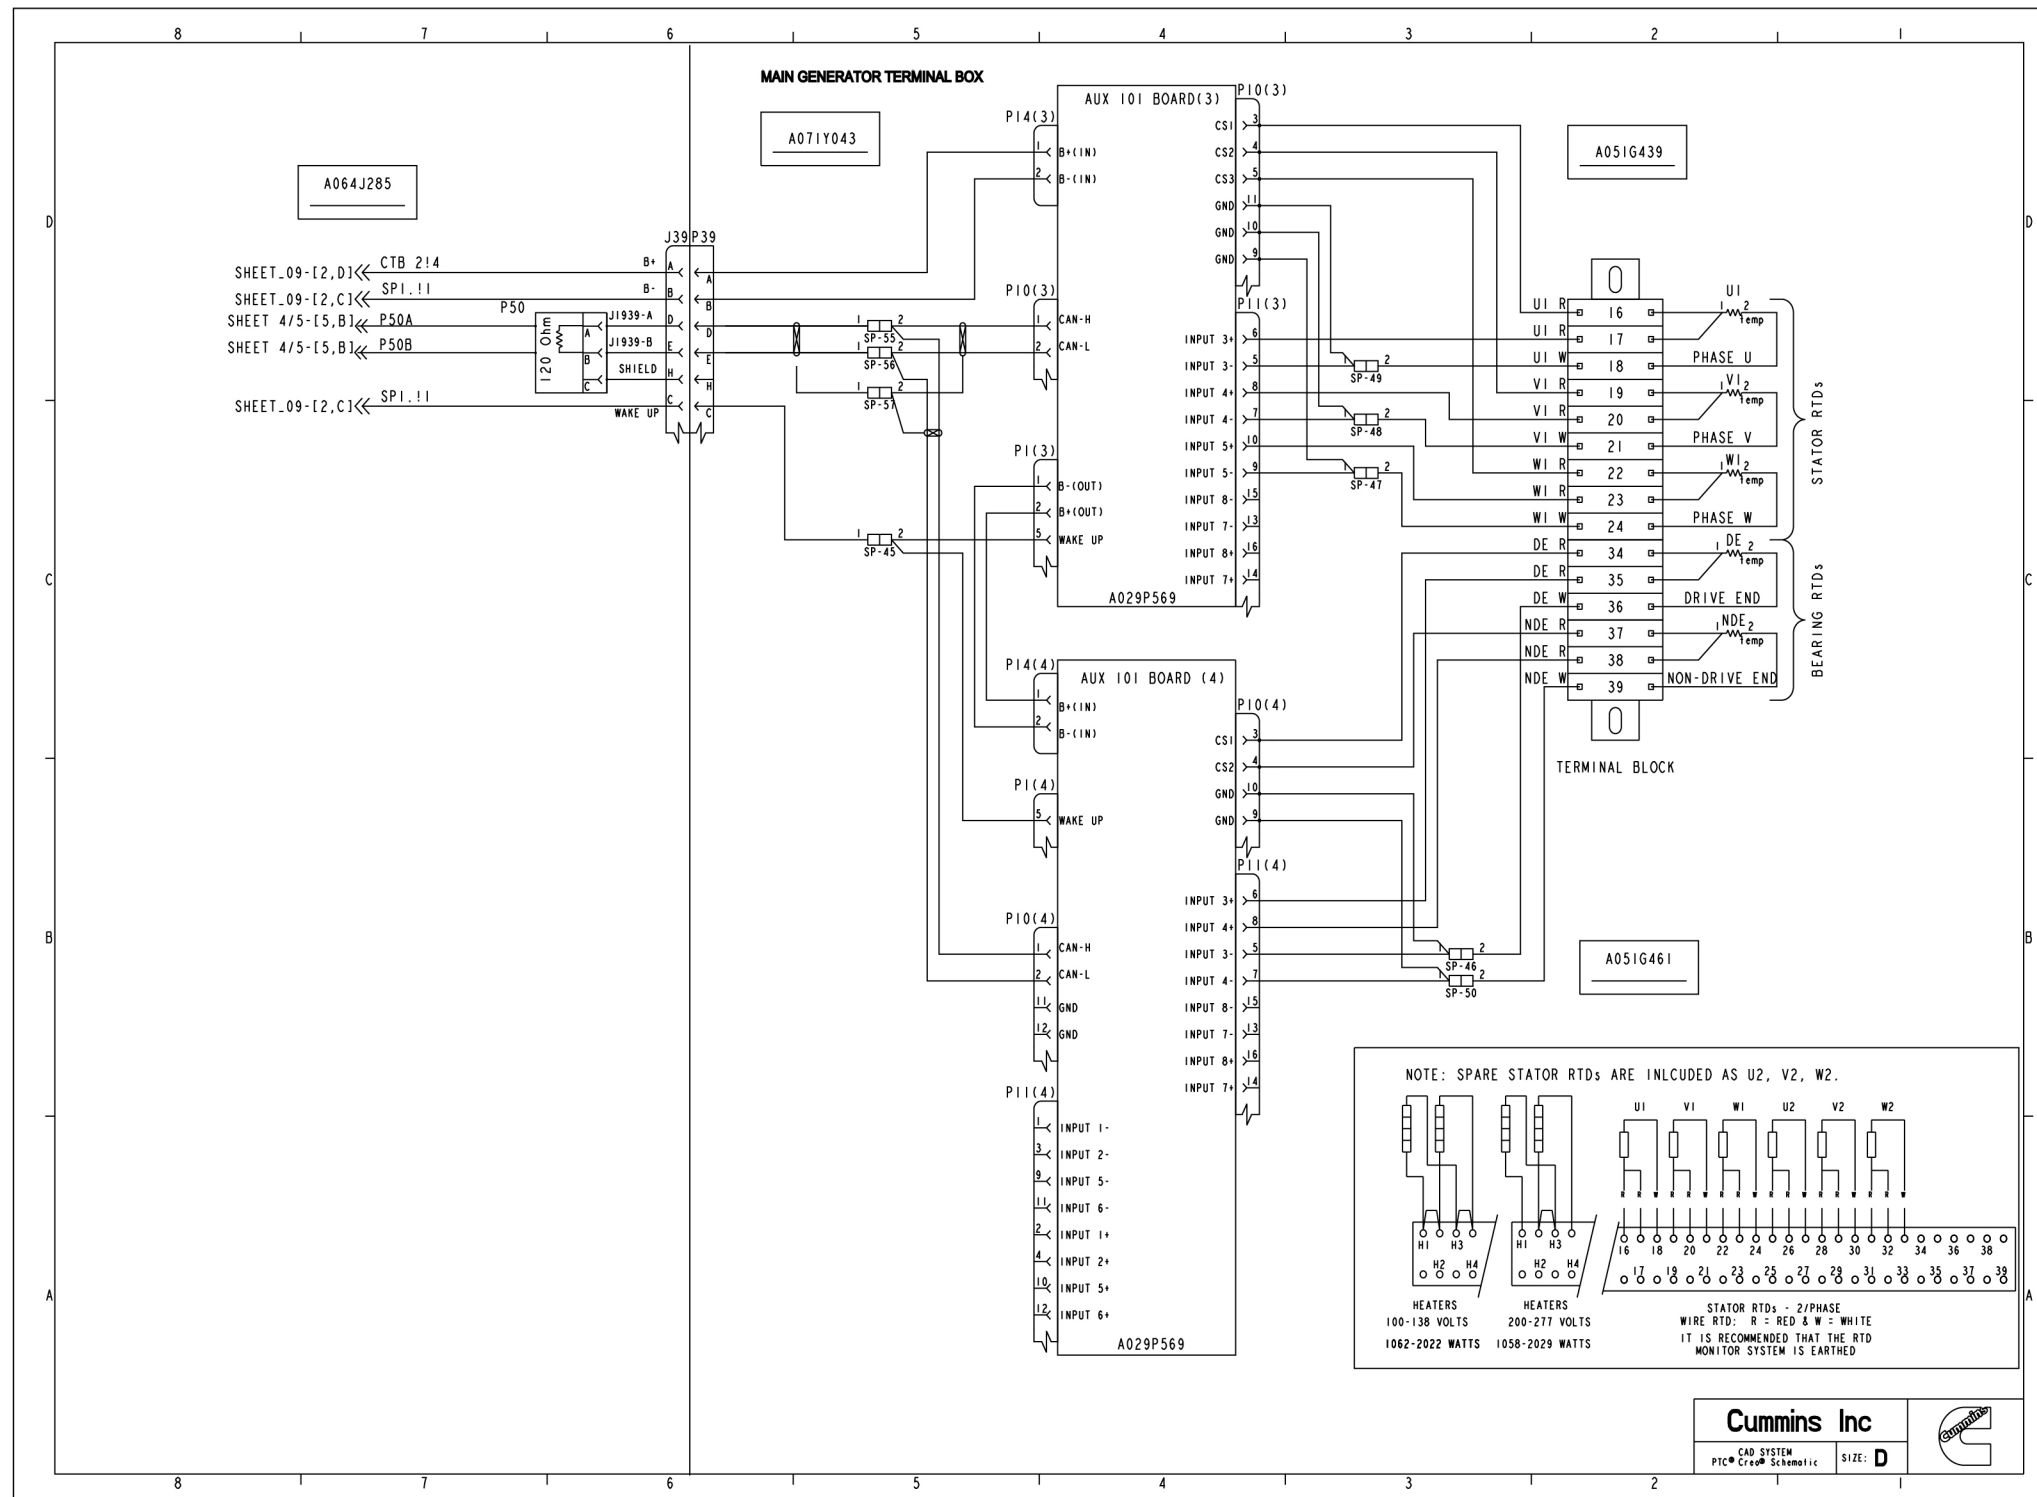

FIGURE 92. WIRING SCHEMATIC (SHEET 8)
- Figure 92. Wiring Schematic (Sheet 8) 396